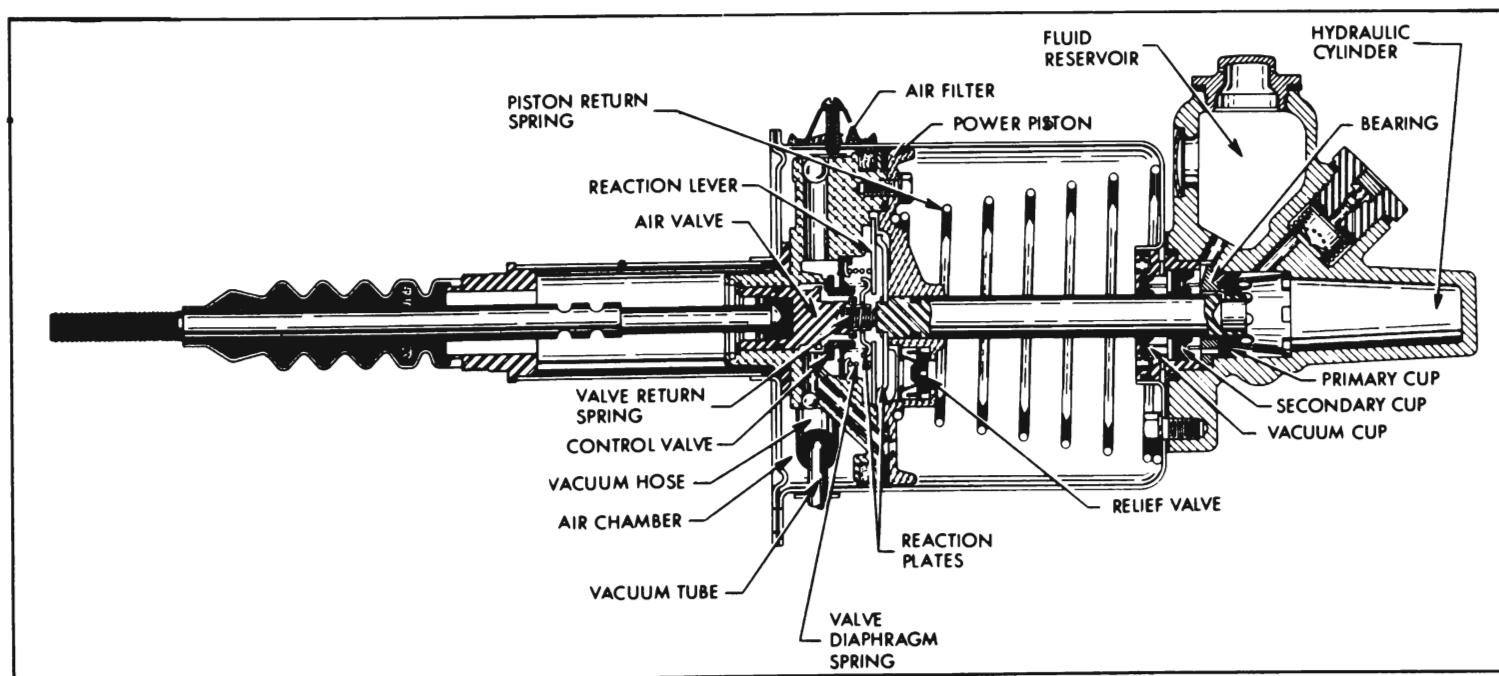

Figure 9-13—Moraine Power Brake Unit—Released Position
2. Remove clevis pin from push rod clevis. See figure 9-13.
As shown in figure 9-13, a cover closes the forward end of the cylinder housing to form a large chamber in which the power piston and related parts operate. The section on the cover side of the piston is called the *air* chamber since it is open to atmospheric pressure at all times. The section on the opposite side of the piston is called the *vacuum* chamber since it is subjected to manifold vacuum during power application of brakes. All air entering the cylinder housing passes through an air filter.
(1) *Released Position.* See figure 9-13. The pedal return spring and the valve return spring hold the push rod and attached air valve so that the air valve is held clear of the floating control valve. At the same time, the valve diaphragm spring holds the floating control valve against its annular seat on the power piston, thereby closing the passage connected to manifold vacuum.
(5) *Releasing.* When foot pressure on brake pedal is released, the pedal return spring pulls the push rod rearward to relieve pressure on the air valve. The valve return spring forces the air valve away from the floating control valve, which is seated against the power piston to close the vacuum passage. Since both sides of the power piston are now open to atmospheric pressure, the piston return spring forces the power piston and related parts rearward to the unapplied position (fig. 9-13).
NOTE: Refer to figures 9-13 thru 9-16 for identification of parts not shown in figures next to overhaul steps.